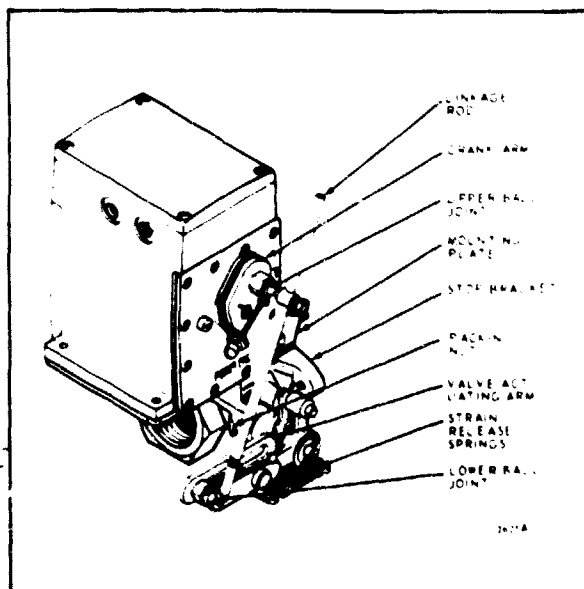

FIG. 2-Q100B LINKAGE ASSEMBLY.
#### CONNECTING MODUTROL MOTOR AND V51E VALVE USING Q100B LINKAGE (SEE FIG. 2)
Special parts needed for the basic assembly are furnished in bag assemblies. For adapting Q100B linkage to operate dampers, auxiliary valves, or other equipment, see burner manufacturer's instructions. Install the motor and linkage on the valve as follows (refer to Fig. 2):
4. Install valve actuating arm as shown in Fig. 2 and adjust as desired.